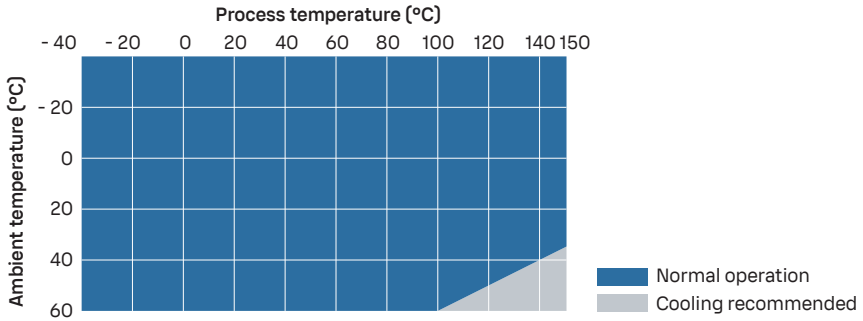

Figure 2 Process temperature and recommended cooling
- Use additional cooling according to Figure 2 \(page 14\). Notice that the values in the figure are indicative. Required cooling depends on the installation location and environment.